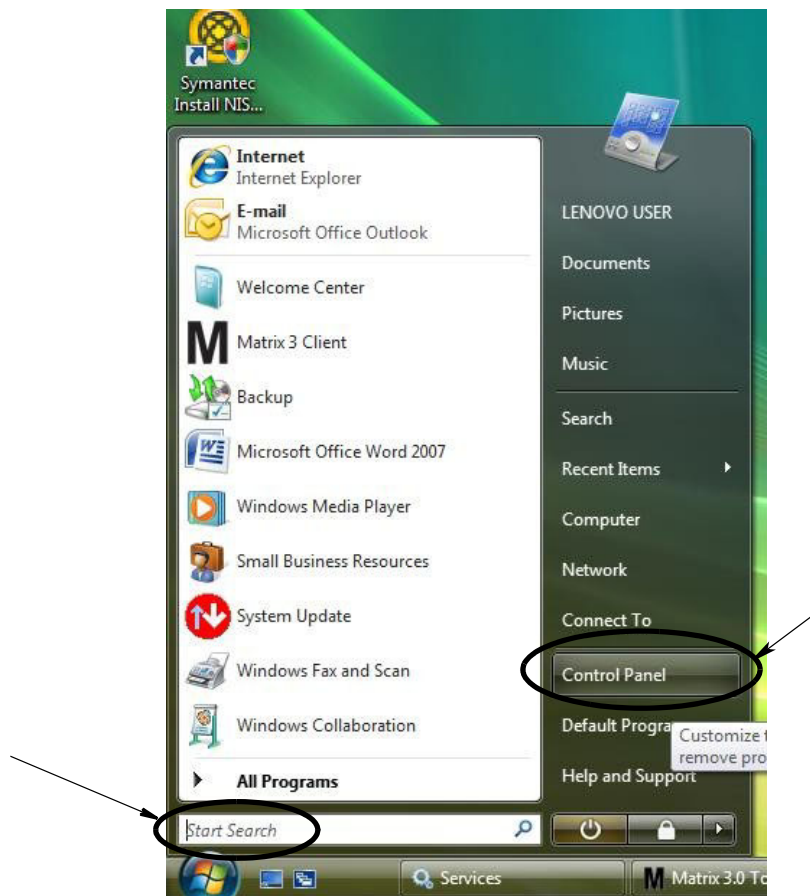

FIG. 32
1. On the Windows Vista desktop select Start Search / Control Panel (FIG. 32).